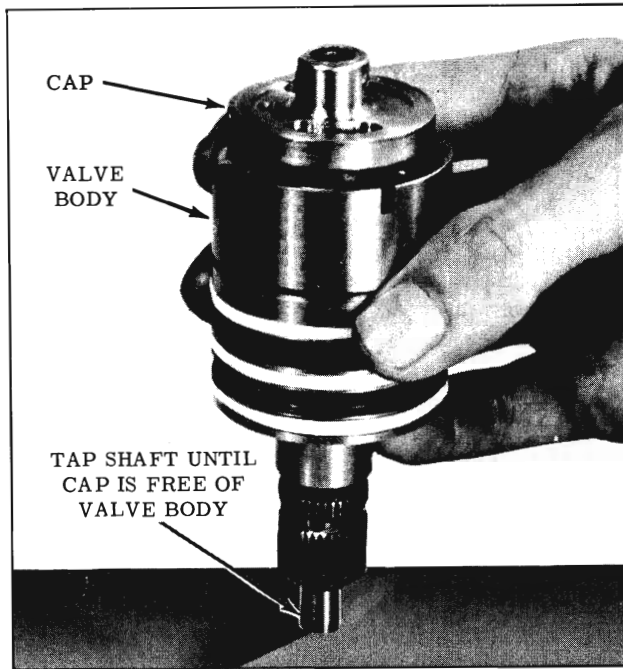

Fig. 4-262 Removing Lower Shaft
- a. While holding the assembly (lower shaft down), lightly tap the lower shaft against the bench until the shaft cap is free from the valve body. (Fig. 4-262) The spool valve should be held in the valve body while tapping the shaft.